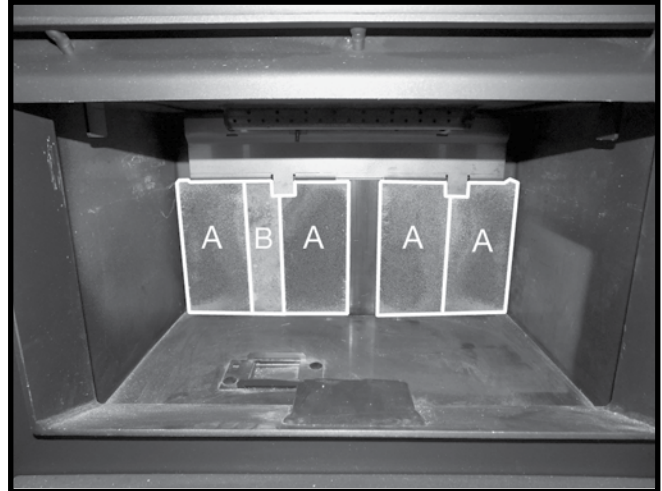

Figure 22: Left side rear wall A and B brick placement.
2. On the left side of the rear wall, stand two "A" bricks with one "B" brick in between them. Slide the bricks toward the center of the rear wall (Figure 22)